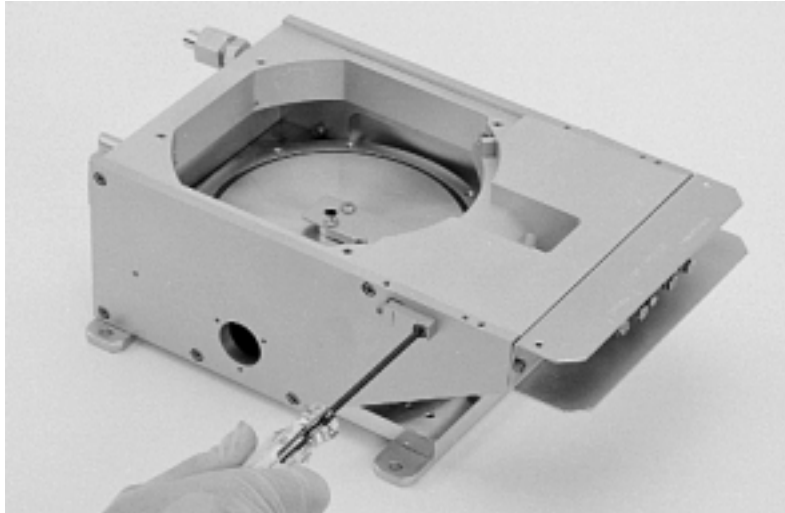

Figure 5-11. Removing the internal pole extensions
Step 10: Remove the internal pole extensions. To do so, remove the 8-32 1/2" screws that secure them to the pole pieces, as shown in Figure 5-11.